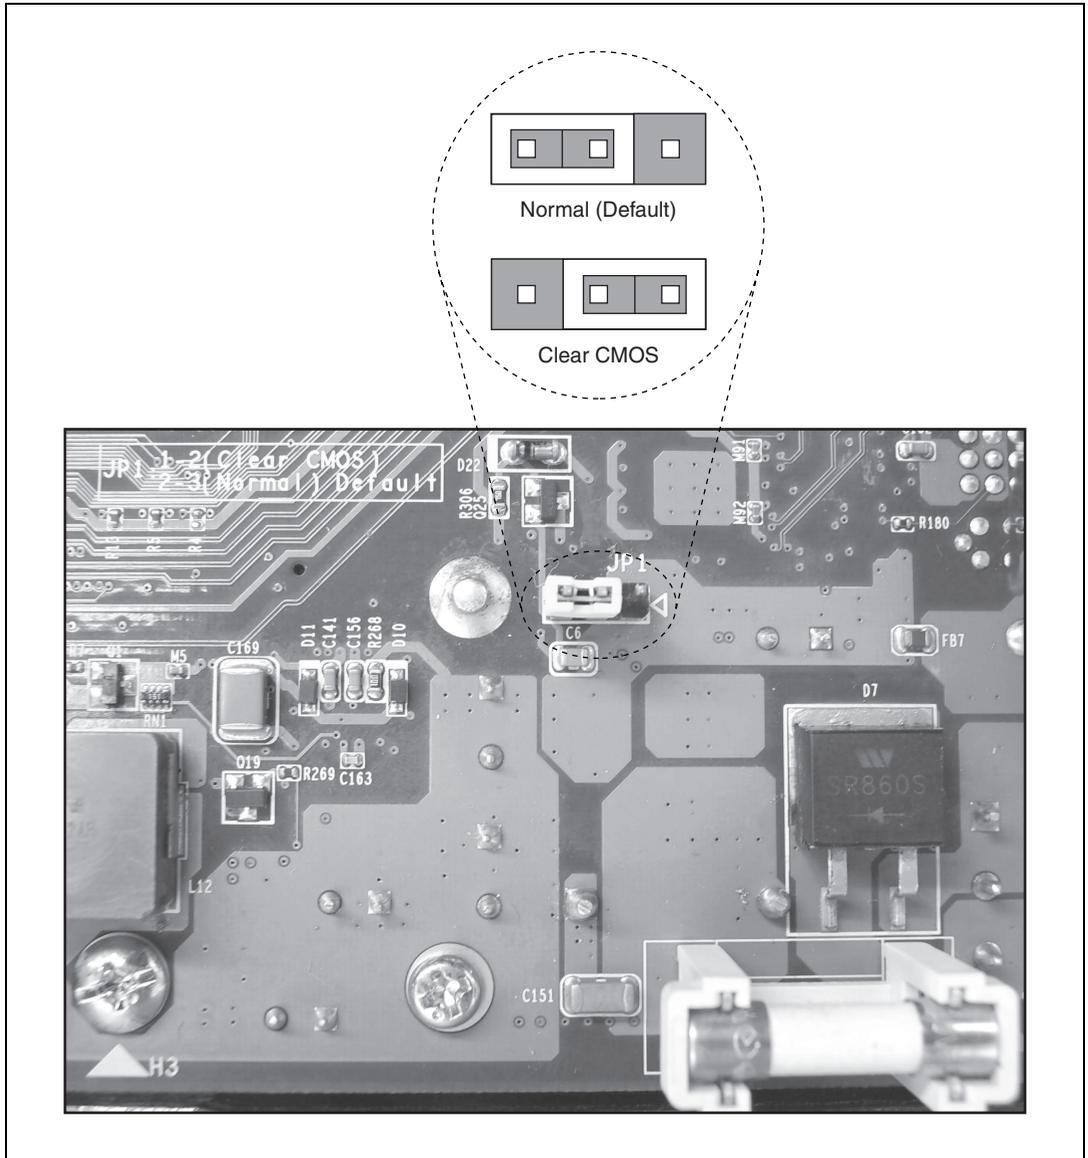

Figure 2-1. Clearing the CMOS Contents
5. Locate the jumper for clearing the CMOS contents, as shown in Figure 2-1. (For clarity, the heat spreader is not shown in the figure.)
6. Move the jumper from pins 1–2 to pins 2–3 as shown in Figure 2-1.